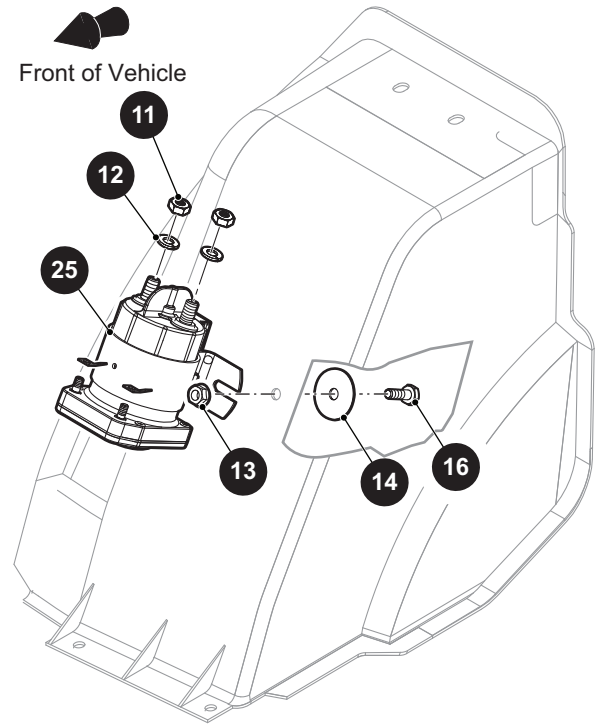

Fig. 12 Solenoid
2. Remove the nuts (11) and lock washers (12) securing the wires to the solenoid (25) (Ref Fig. 12).
3. Remove the bolts (16), washers (14) and nuts (13) to remove the solenoid from the rear fender.